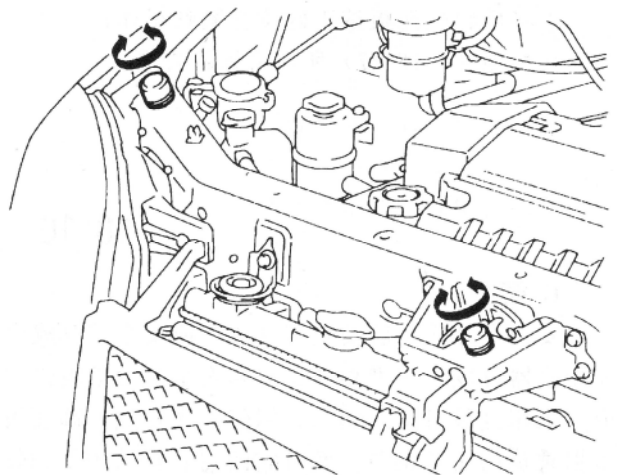

Fig.18-24
② Adjust height of bonnet ASM (see figure18-24)